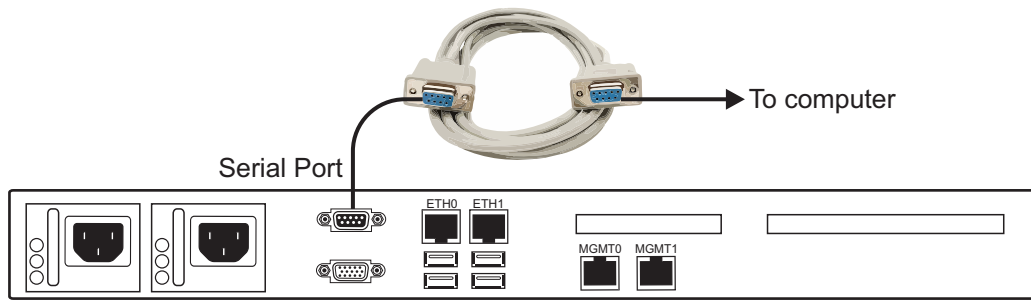

Figure 9.2 7800-CTRL Serial Port Connection
1. Connect a null modem DB9 female-female cable between the DB9 serial port of your computer and the DB9 serial port of the 7800-CTRL. See figure 9.2 on page 61.